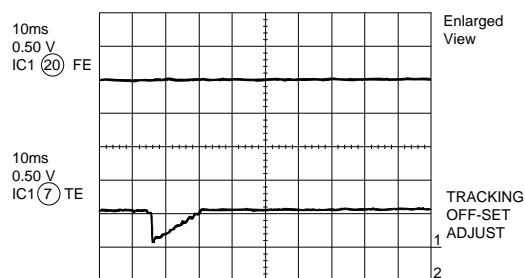

Figure 11-3
2. Tracking offset (Fig. 11-3)